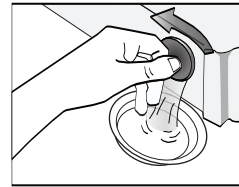

Fig 11
4. Reconnect the inlet pipe to tap. Remove the remaining water in drain pump (Fig11).